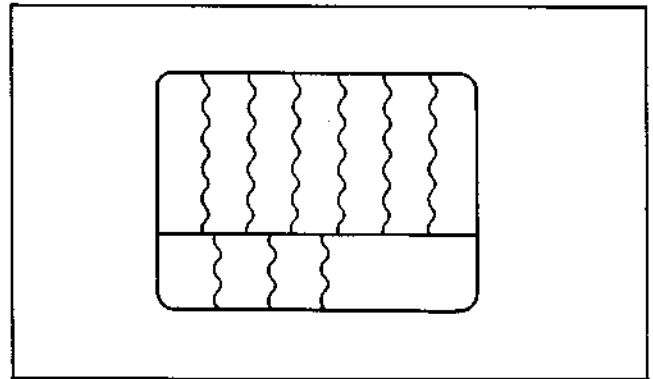

Fig. 1-5. Notes on servicing
2. Be sure to install the fan on the drum prior to tape playback check or electrical system alignment. If this is not done, the picture on the monitor may bend, as shown in Fig. 1-5.